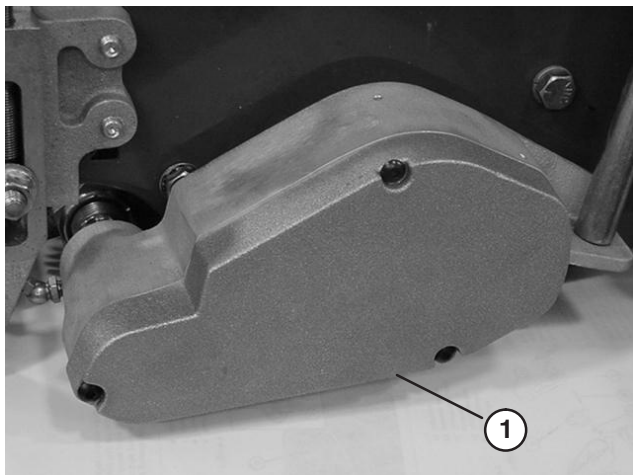

Figure 10
25. Install the cover to the housing, with the 3 new socket head screws and lockwashers provided in the kit (Fig. 10).